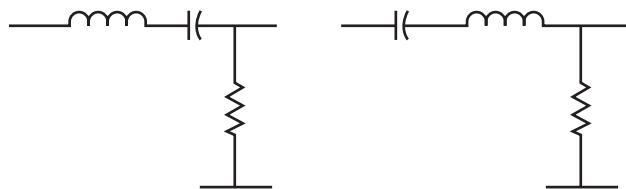

FIGURE 7.2
You can combine a capacitor and an inductor in series with a resistor to form voltage divider circuits, such as the two circuits shown in Figure 7.2. A circuit that contains resistance (R), inductance (L), and capacitance (C) is referred to as an RLC circuit. Although the order of the capacitor and inductor differs in the two circuits shown in Figure 7.2, they have the same effect on electrical signals.
When you apply an AC signal to the circuits in Figure 7.2, both the inductor's and the capacitor's reactance value depends on the frequency.
You can calculate the impedance of the RLC circuits shown in Figure 7.2 by using the following formula:
Calculate the net reactance and impedance for an RLC series circuit, such as those shown in Figure 7.2, with the following values:
3 Calculate the net reactance and impedance for an RLC series circuit, such as those shown in Figure 7.2, using the following values:
- 4** Calculate the net reactance and impedance for an RLC series circuit, such as those shown in Figure 7.2, using the values in the following questions.